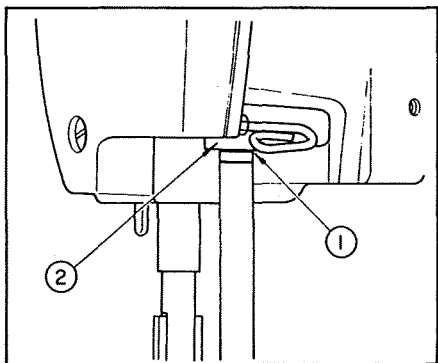
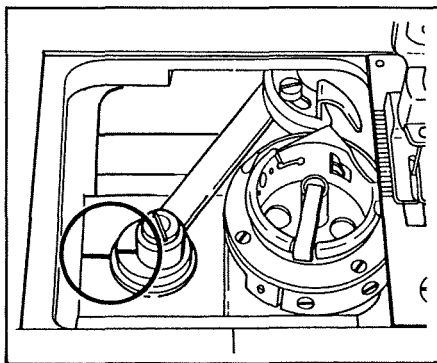

Fig. 17
Fig. 18
When the upper line engraved on the needle bar (① of Fig.17) coincides with the bottom surface of the needle bar frame (② of Fig.17), in other word, when the needle bar has gone up by  $0.2 \sim 0.3\text{mm}$  ( $1/128'' \sim 3/256''$ ) from it's bottom dead point, two engraved marks located on the pivot of the bobbin case opening lever link must aligned with each other as shown in Fig.18.